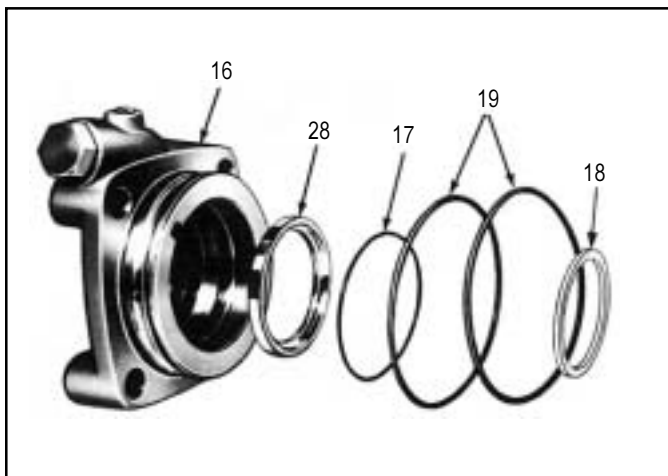

FIGURE 32
3. Using tool number 297647, install the inner ball race(28) (in the event it was removed), into the bottom of valve body and install internal O-Ring(17) and the two external O-Rings(19). (See Figure 32). Install nylon seal(18) in